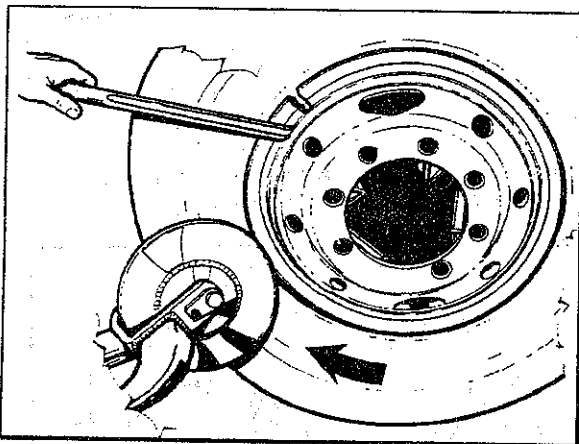

Fig.42
4. Engage one edge of the lock ring in its seat and complete the mounting process with the bead breaker disc. In the initial mounting phase hold the rim edge in its seat with a bar (Fig.42).